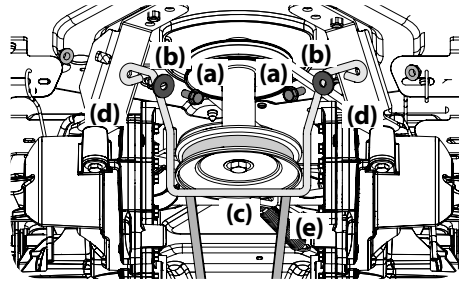
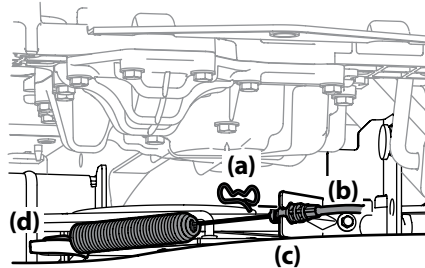

Figure 4-11
Figure 4-12
- Remove the hex washer screw (a), flat washer (b) securing the belt keeper rod (c) to the transmission mount brackets (d) and remove the belt keeper rod (c). See Figure 4-11.
- Remove the bow pin (a) that secures the PTO cable (b) to the bracket (c) on the deck, slide the PTO cable (b) out of the bracket (c) and unhook the spring from the idler bracket (d). See Figure 4-12.
- Remove the 'V' belt (e) from the PTO pulley on manual PTO tractors on the bottom of the engine and skip ahead to Step 9. See Figure 4-11.
13. On manual PTO tractors, reinstall the belt keeper rod (Refer to Figure 4-11) and the PTO cable (Refer to Figure 4-12).